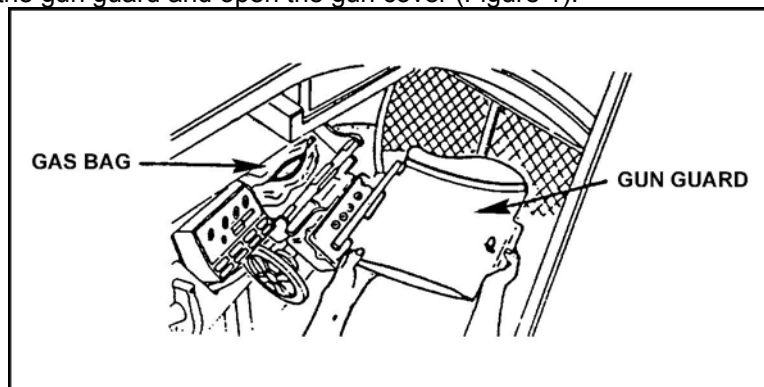

Figure 1. Gun guard and gun cover.
b. Remove the gun guard and open the gun cover (Figure 1).